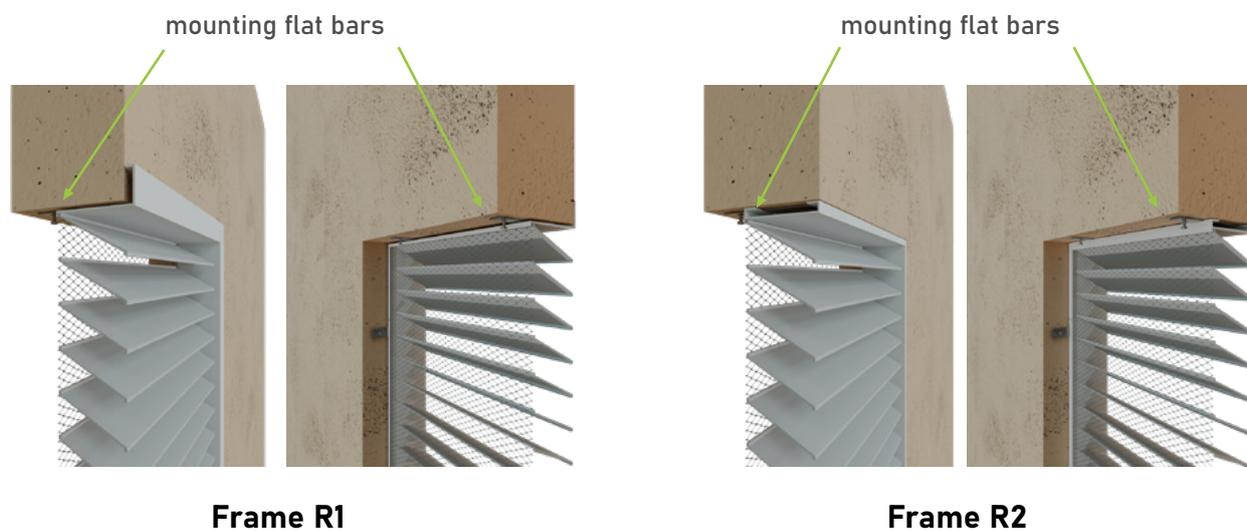

Fig. 4
- **W2** - concealed assembly using screws and mounting flat bars (Fig. 4)